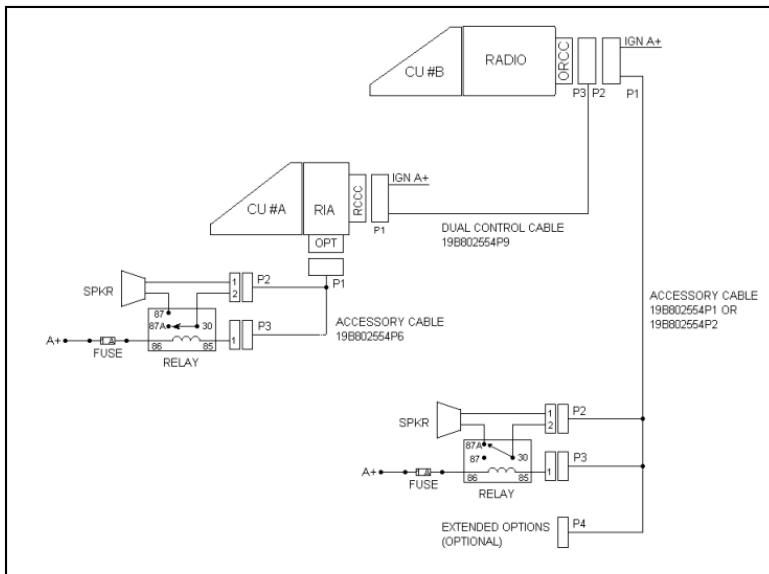

Figure 33 - ORION Dual Control Unit Front Mount/Remote Mount Installation Configuration
The Dual Control feature can be configured for either front mount or for remote mount Radio Units. Each configuration provides for a Main Control Unit and an Auxiliary Control Unit. In the front mount configuration, the Main Control Unit is on the Radio Unit itself (see Figure 33), with the Auxiliary Control Unit located in a convenient location. In remote mount configuration the Main Control Unit is typically located in the vehicle cab, with the Auxiliary Control Unit located in a convenient location (see Figure 34).
1. Referring to Figure 33, run the Dual Control Cable (19B802554P9) between locations for the Radio Unit and Auxiliary Control Unit. Be sure to locate the P2/P3 connector assembly at the Radio Unit.
9. Radio Unit Speaker: Connect the lead nearest the speaker to Pin 87A of the relay. Connect the lead nearest the connector to Pin 30 of the relay. Connect the connector to the Accessory Cable P2 (Refer to Figure 33).
10. Auxiliary Control Unit Speaker: Connect the lead nearest the speaker to Pin 87 of the relay. Connect the lead nearest the connector to Pin 30 of the relay. Connect the connector to the Accessory Cable P2 (Refer to Figure 33).
- For each relay: Connect a #18 AWG black wire between the relay, Pin 85 and Accessory Cable P3-1 (labeled “OUT2” on the schematic diagrams in the service manual). Use a 1/4” tab receptacle on the relay side and mating Molex connector and pins on the accessory cable side. Connect the mating Molex connector to the Accessory Cable P3 when finished (Refer to Figure 33).
- For each relay: Connect a #18 AWG red wire to the relay, Pin 86. Cut to length, and connect to the 1 amp fuse holder supplied. Use crimp on connectors supplied. Connect the other side of the 1 amp fuse holder to A+ battery source or vehicle A+ fuse block. Use #18 AWG red wire and ring lug supplied., if needed (See Figure 33).